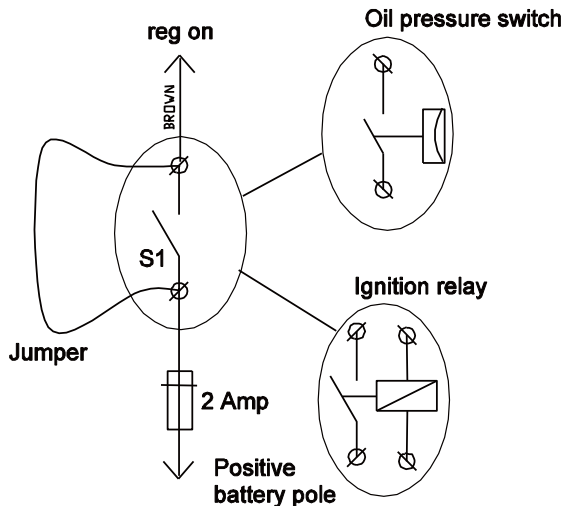

Figure 14: Jumper across switch S1
- 2 Energize the [reg on] terminal by either turning on the ignition switch (DO NOT START THE ENGINE) or by putting a jumper across switch S1 (see Figure 14). Check whether the 3 yellow LEDs start to blink. After approximately 10 seconds, the yellow bulk led will illuminate.